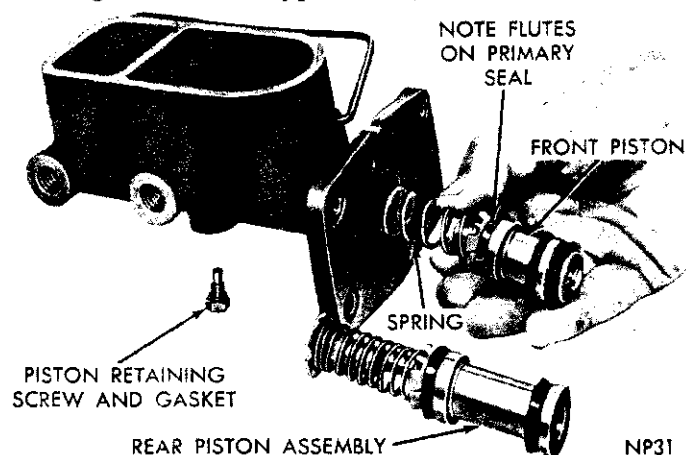

Fig. 5—Installing Front Piston and Spring
(5) Position small end of pressure spring into retainer, then slide assembly into bore of cylinder (Fig. 5). **Be sure cups enter bore evenly in order not to damage sealing quality of cups. (Keep well lubricated with brake fluid.)**